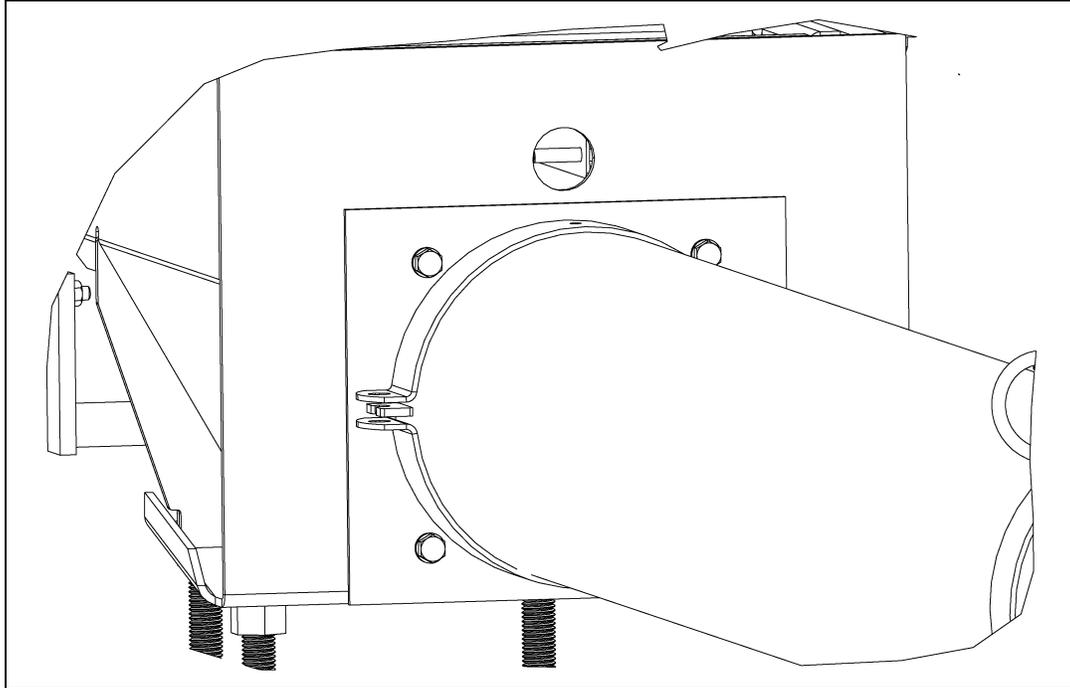

Figure 5J
11. Connect the discharge auger tube to the Grain Flow sump. Be sure that the locator tabs welded on the auger tube are in position between the clamp bands. At this time, check the square flange welded onto the opposite end of the auger tube making sure it is level. Finish by tightening the two (2) 3/8" x 1-1/4" bolts and nuts holding the two (2) clamps together. The square flange on the auger tube must be level to ensure the power unit or vertical augers, if utilized, will be level and plumb. (See Figure 5J and Figure 5K.)